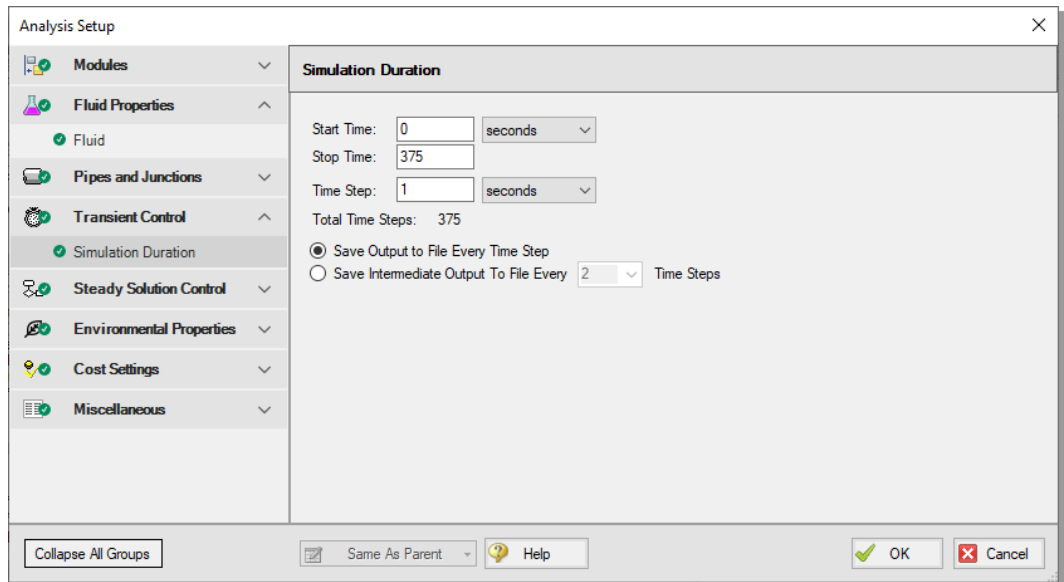

Figure 5.10 The Simulation Duration panel is used to control transient simulations
- **Set the Start Time to 0 seconds and the Stop Time as 375 seconds,** with a time step of 1 second. The output will be saved to the output file for every time step. The Simulation Duration panel should appear as shown in Figure 5.10.